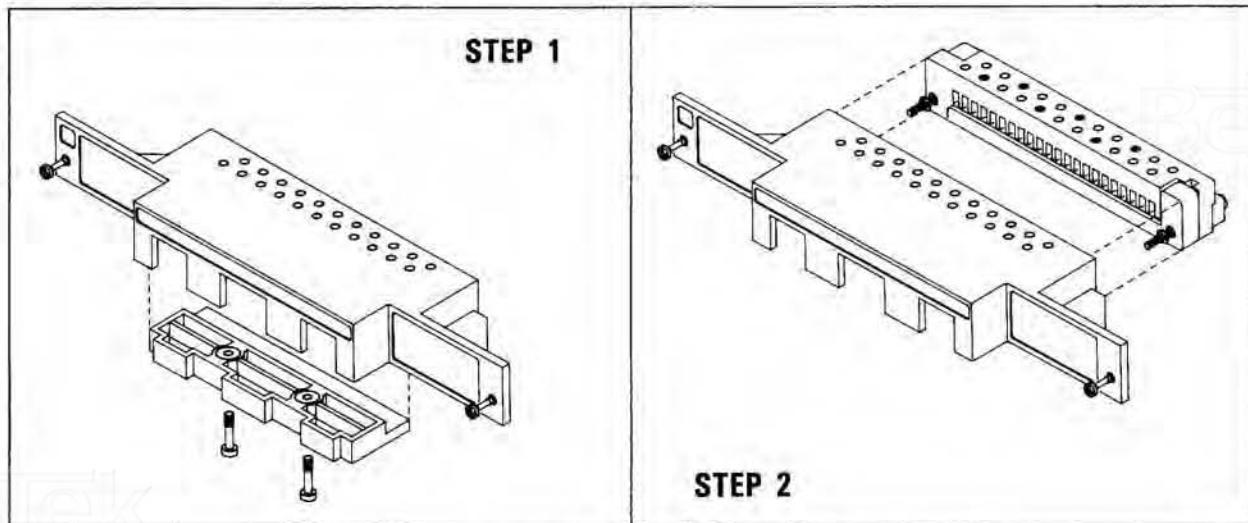

Figure 2-13. Wiring Block Disassembly
- Remove the Strain Relief Plate from the bottom of the Strain Relief Housing (Figure 2-13, Step 1)
- Remove the Wiring Block from the Strain Relief Housing (Figure 2-13, Step 2).